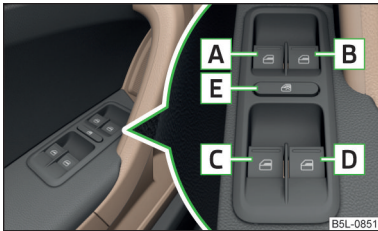

Fig. 38 Window lifter buttons
Electric window buttons » Fig. 38
- After the driver or front passenger door is opened, the operation of the window is only possible with the button **A** » Fig. 38, in which case this is pressed or pulled for approx. 2 seconds.
- › **Or** Switch off the ignition, open the driver's door and hold the key  until it stops in the open position » Fig. 38 on page 54.
- › **Or** Switch off the ignition, open the driver's door and hold the key  until it stops in the closed position » Fig. 38 on page 54.